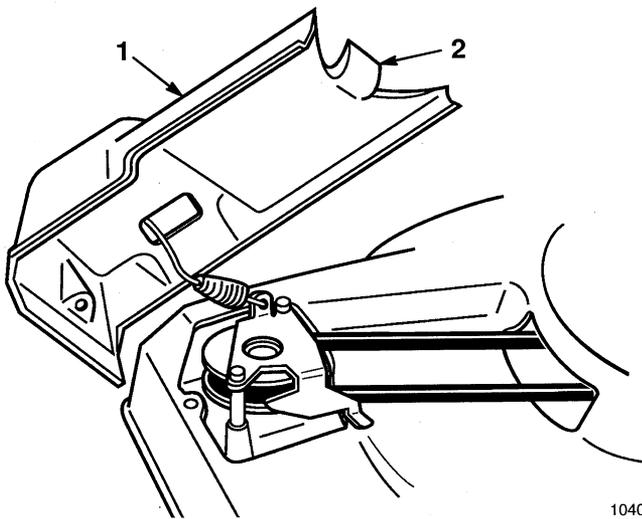

Figure 31
2. Remove screw and slide belt cover to rear, unhooking tab on front of cover from deck opening. Tilt cover up to the side and remove debris (Fig. 31) from under cover and pulley groove.